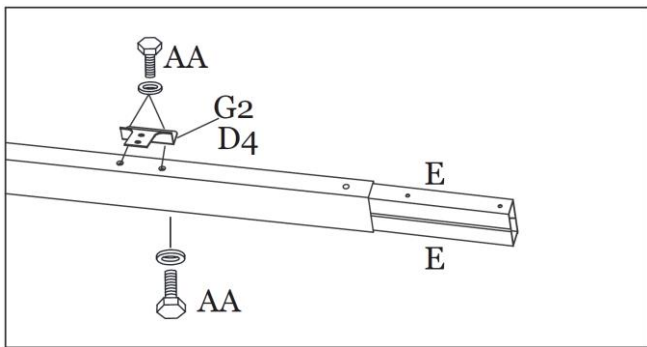
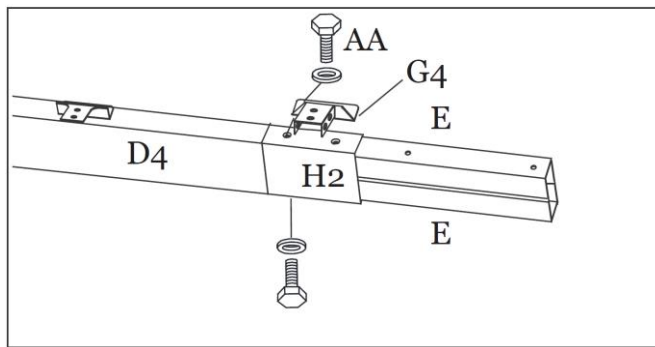

Figure 3-1
Figure 3-2
Step 3A: Attach the Lintel Bracket (G2) to the Long Lintel (D4) using Bolts/Washers (AA). **Tighten all Bolts.** Insert the Lintel Connector (E) into the Long Lintel (D4). See Figure 3-1. Insert the Lintel Connector (E) into the Lintel Cover (H2). Attach the Top Lintel Bracket (G4) to the top of the Lintel Cover (H2) using Bolts/Washers (AA). See Figure 3-2.